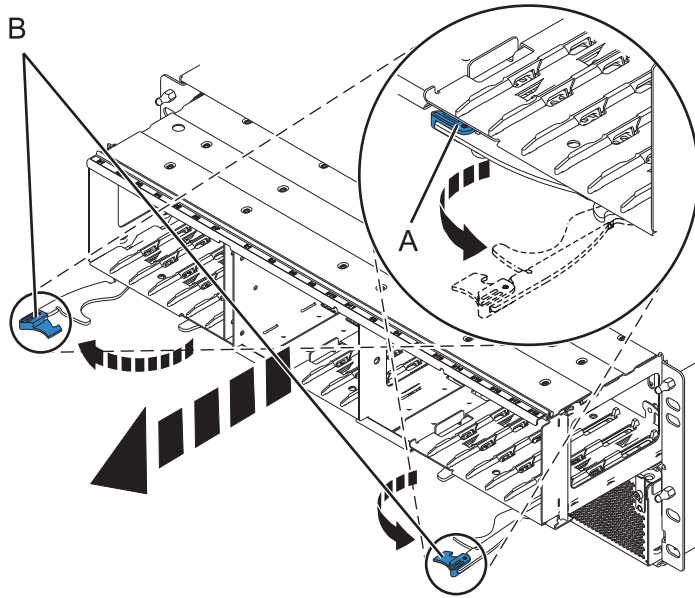

Figure 79. Removing the backplane from the enclosure
5. Remove the backplane as shown in Figure 79 on page 140.